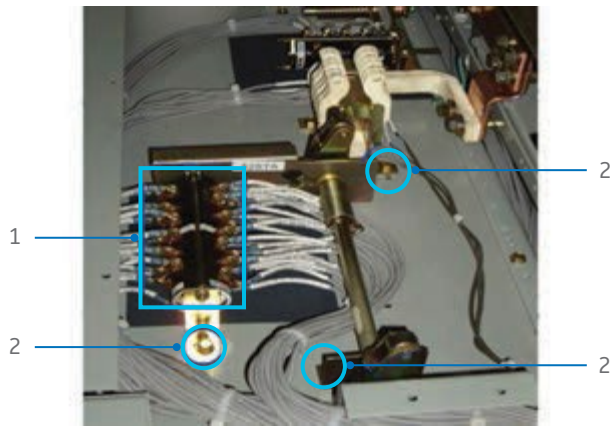
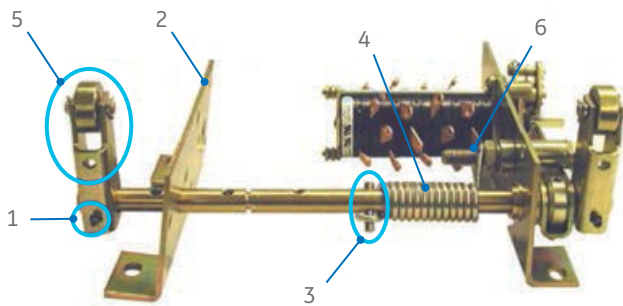

Figure 34: MOC Switch
Figure 35: MOC Switch
After removing the taptite fasteners and cover, proceed to remove the wiring to the MOC switch as shown (Figure 34, 1). Once completed, remove the bolts that attach the MOC assembly to the pan.
Note: Actual switch style may vary from the one shown, however the removal/replacement procedure is essentially the same (Figure 34, 2).
When the MOC switch assembly is free, secure the operating shaft (Figure 35) in a vise (or similar clamp). Loosen nut on the end of the stop bolt (Figure 35, 6) and carefully back the bolt out to release tension on the spring. Remove the roll pin holding the roller arm and the dowel pin holding the spring to the shaft (shown on Figure 35, 1 and 3). With- draw the roller arm (5) and the mounting bracket (2), (Figure 34), slide the torsion spring off the shaft. Insert the new MOC torsion spring (part number 8PVR002129) onto the shaft and replace the dowel pin retainer. Pull the tension arm of the spring back, and return the stop bolt to its original position and secure nut. Slide mounting bracket back onto shaft, followed by the roller arm. Fix the roller arm to the shaft by reinserting the roll pin. Reinstall the MOC switch assembly and reconnect the wiring. Verify the switch operates freely.